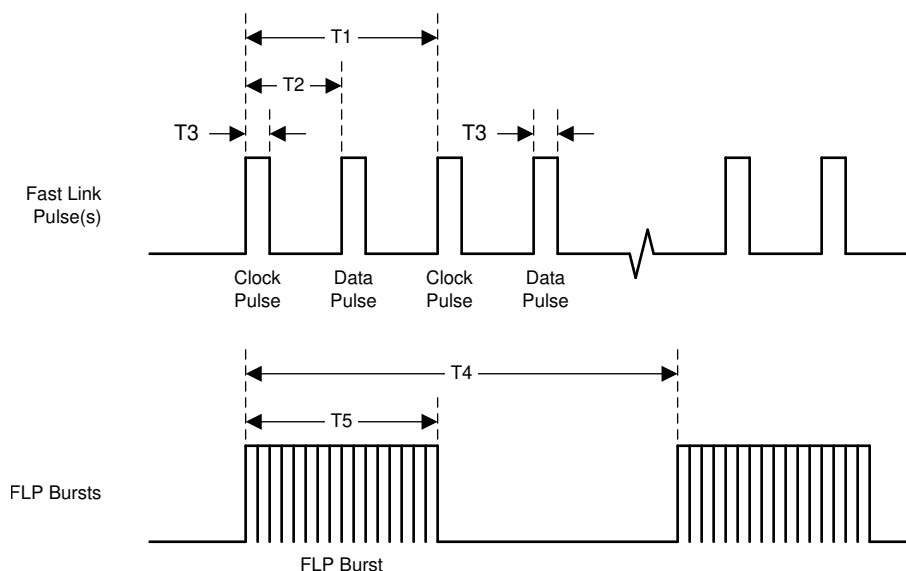

Figure 7-14. Fast Link Pulse Timing
(1) Ensured by production test, characterization or design.
(2) See Figure 7-14.